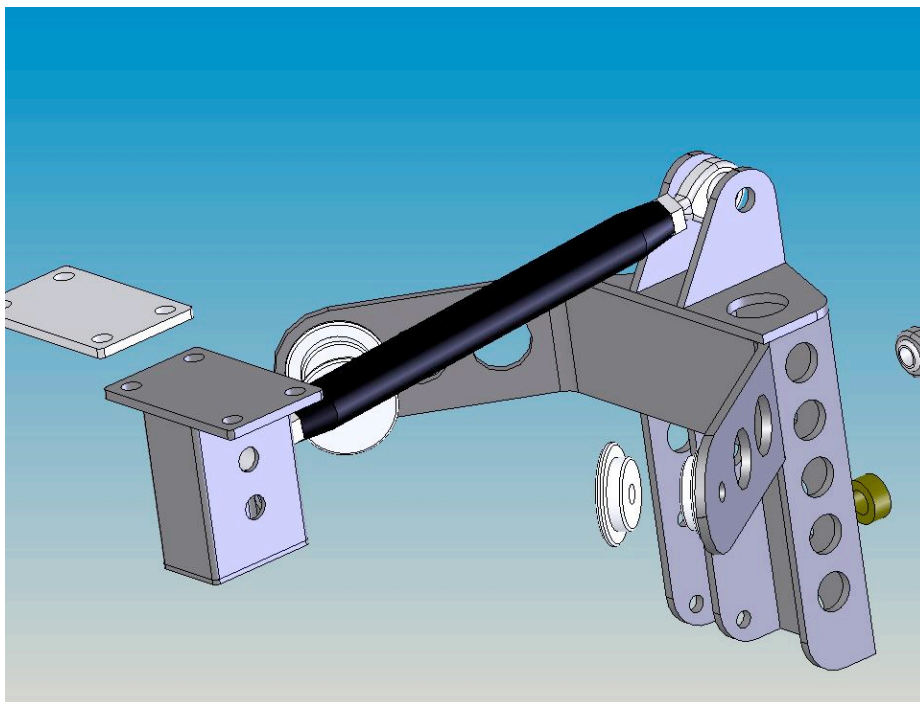

Figure 3.
- 8) Install the third link using the supplied hardware. Install the third link in the bottom hole of the chassis front mount. Placing a magnetic protractor on the top bump pad of the third member, adjust the third link by rotating it so that the pinion angle is 2 degrees negative (facing down toward the front of the car) when measured from the ground. This can be changed later. These measurements are for mock up only. See figure 3.